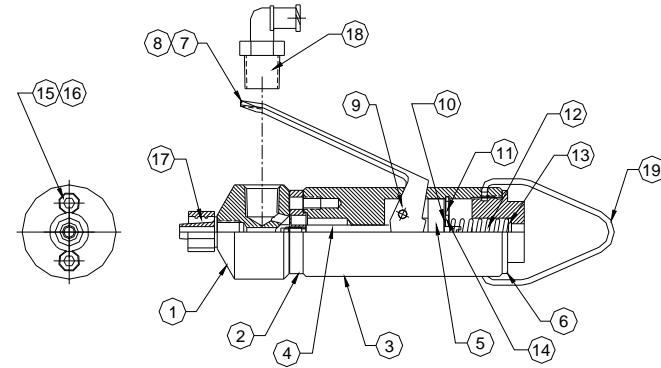

Figure 3.0
6.1 Cleaning (Refer to figure 3.0)